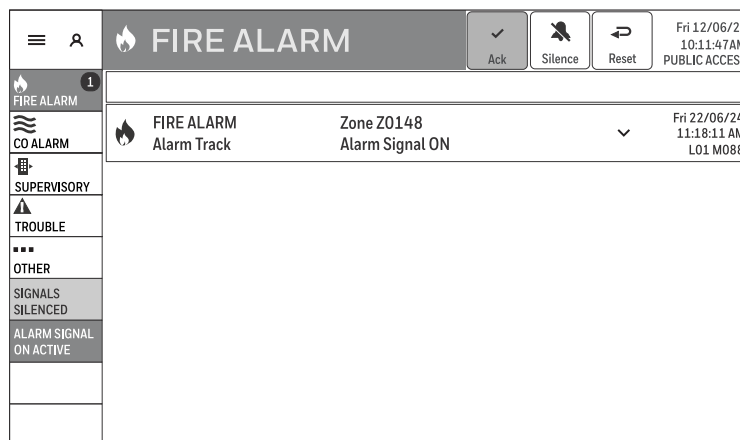

Figure 4-17: Alarm Signal ON Screen
- Displays FIRE ALARM displays and specific device information in the Events List, Shown in Figure 4-17: Alarm Signal ON Screen